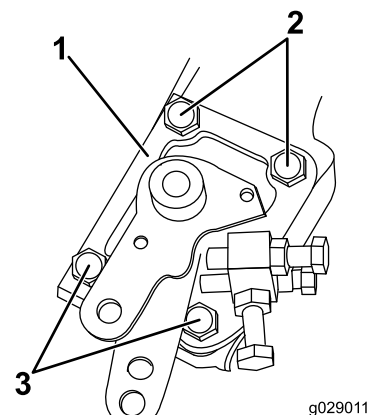

Figure 9
- Remove the 4 bolts and 2 washers securing the existing speed-control plate to the engine (Figure 9).
2. Install the speed-control plate using the original 4 bolts and 2 washers (see Figure 9).
- Note:** Ensure the washers are installed with the bolts as shown in Figure 9